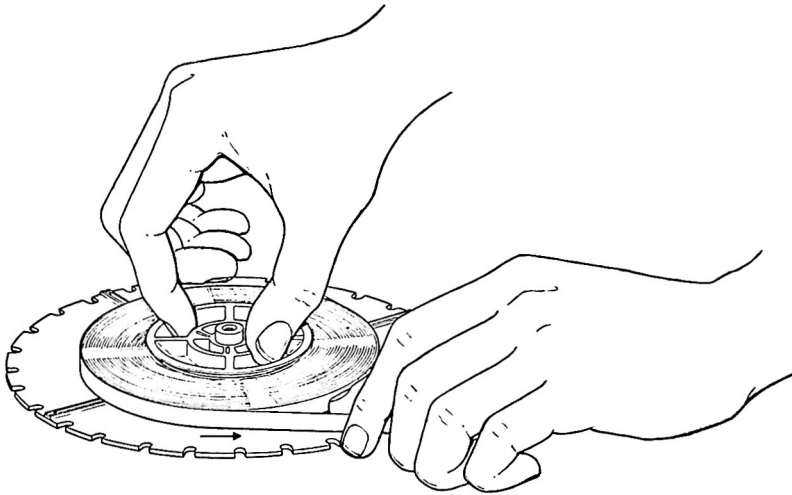

Figure 5. Preparing to Splice Tape (No. 1)
a. Place the loaded reel on a flat surface. While holding the hub of the reel firmly with the right hand, pull about 18 inches of tape from the outside of the reel as shown in figure 5. The tape should be loose enough on the reel to slip off without having to turn the reel.